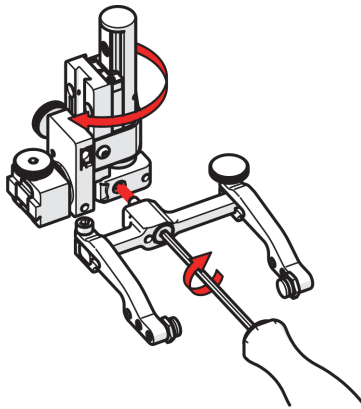

Figure 2-70 Screw yoke to opposite side
6. Mount the yoke to the opposite side of the base using the supplied 3 mm hex driver (see Figure 2-70 on page 103).